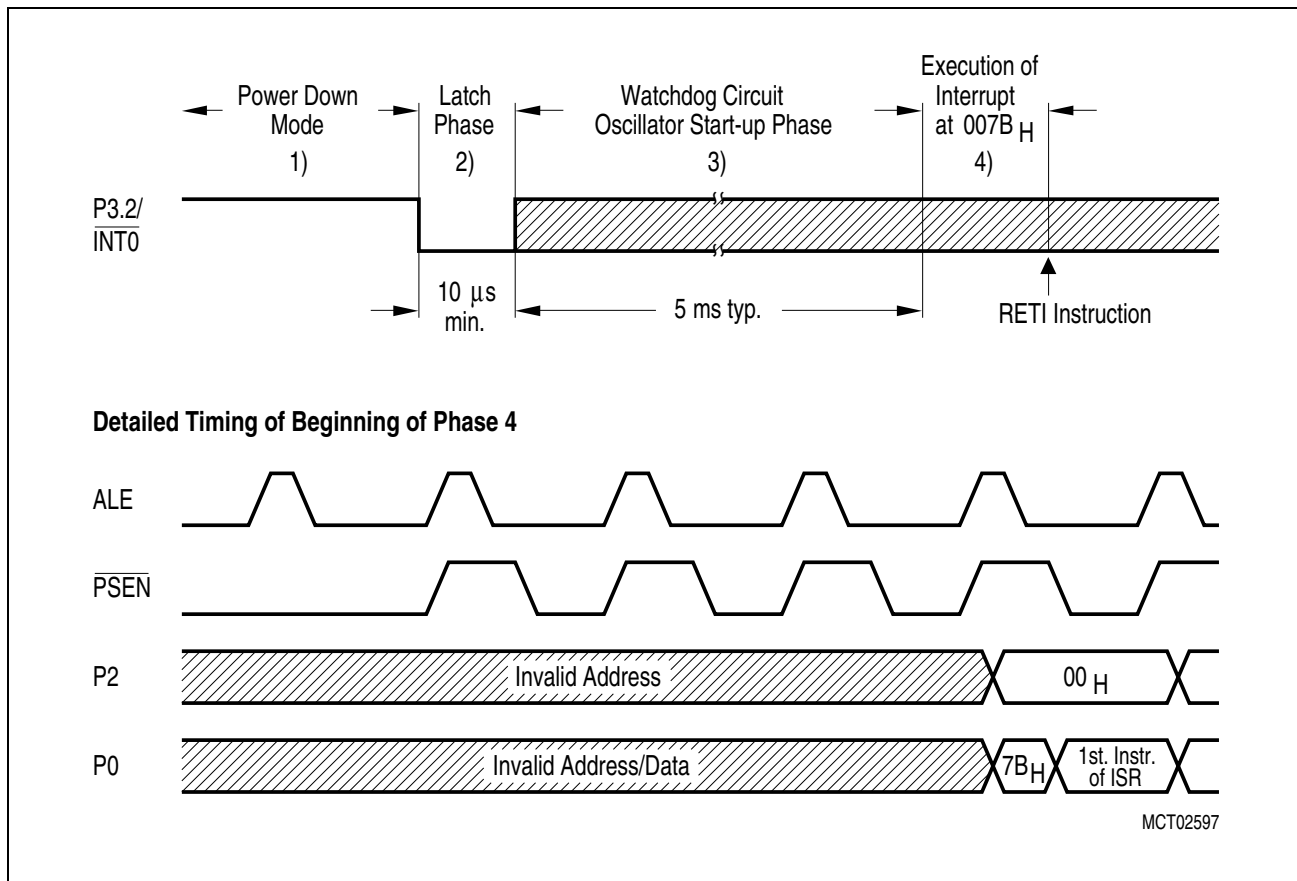

Figure 9-1
Figure 9-1 shows the procedure which must be executed when power-down modes are exited via the P3.2/ $\overline{\text{INT0}}$ wake-up request capability.
3. The oscillator watchdog unit starts operation. When the on-chip oscillator clock's stable nominal frequency has been detected, the microcontroller starts again and initiates the power-down wake-up interrupt. The interrupt address of the first instruction to be executed after wake-up is 007B_H. ALE and $\overline{\text{PSEN}}$ are in their power-down state up to this time. At the end of phase 3, the CPU processes the interrupt call and during these two machine cycles, ALE and $\overline{\text{PSEN}}$ behave as shown in **Figure 9-1** (i.e., at the beginning of phase 4). Instruction fetches during the interrupt call are discarded, however.